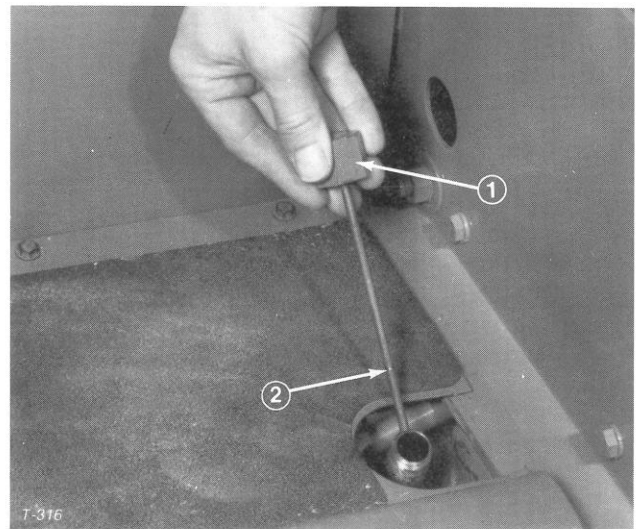

Figure 17
2. Unscrew dipstick cap (Fig. 17) from filler neck and wipe it with a clean rag. Screw dipstick cap finger-tight onto filler neck. Unscrew the dipstick and check level of oil. If level is not within 1/2 inch (13 mm) from the groove in the dipstick (Fig. 17), add enough oil to raise level to groove mark. **DO NOT OVERFILL** by more than 1/2 inch (13 mm) above groove.